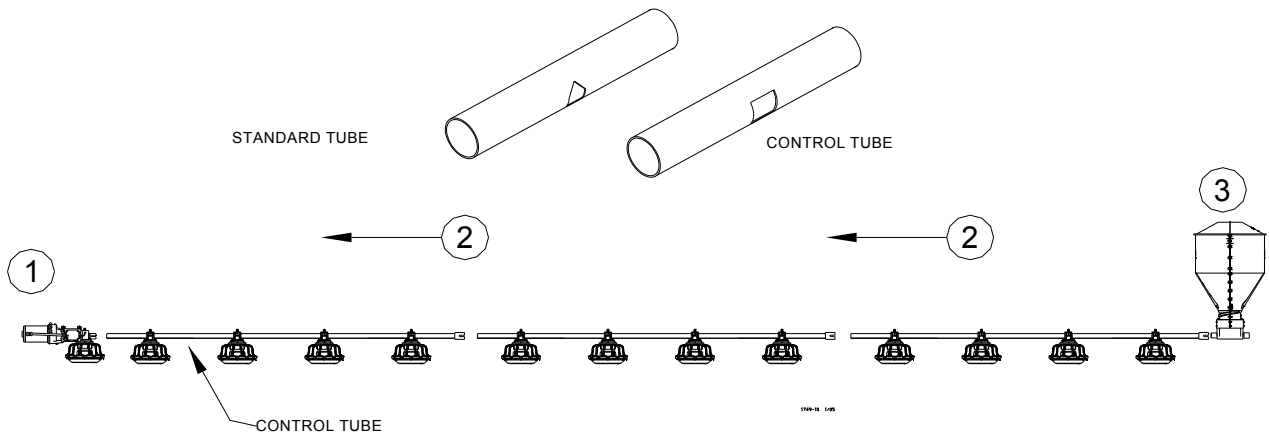

Figure 29. Attaching Feeder Tube Assemblies
1. The actuator, auger tubes and feeders may be laid out end to end in approximately the final location of the line. **The belled end of each tube should be toward the (3) Hopper end of the line. See Figure 29.** Be sure to have the correct number of tubes and the actuator is in the center of the section to be controlled by an actuator.
2. Connect the individual feeder tubes together by inserting the straight end of one tube as far as possible into the (2) belled end of the next tube. **The last Feeder Tube before the (1) End Control Pan or Mid Line Control pan must be a Control Tube.**